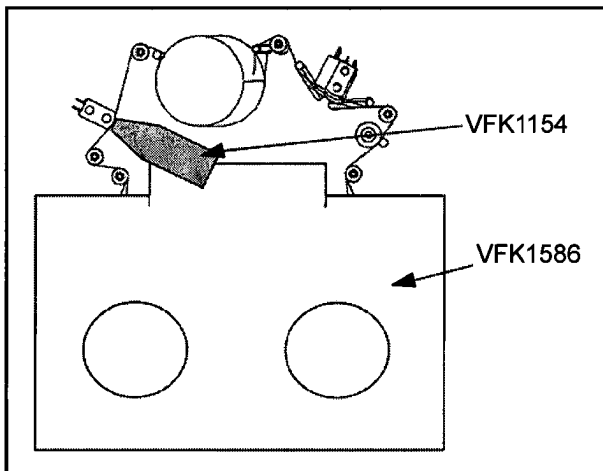

Figure 3-14-1
5. Touch the Post Height Adjust Tool (VFK1154) with the Pre-CTL Head as shown in figure 3-14-1 and adjust screw (A) so that there is no gap between them.